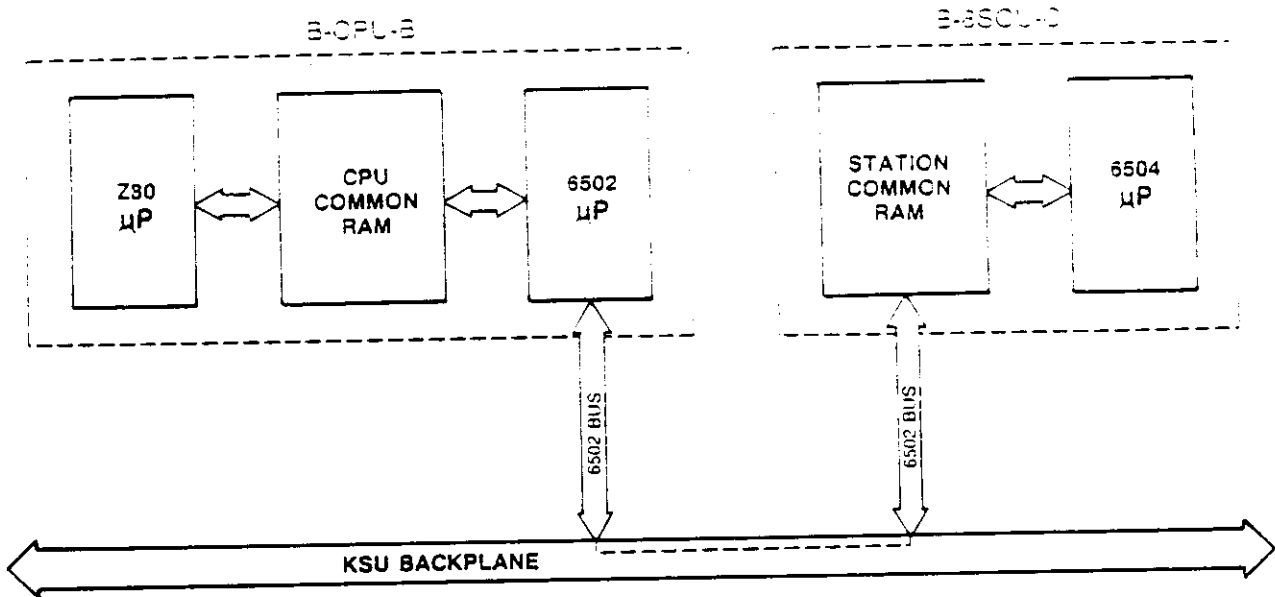

Figure 8-7 CPU COMMON RAM, EK-824/1232/1648
3.10 The CPU Common RAM is the interface between the Z80 and 6502 microprocessors (Figure 8-7). The Common RAM frees the Z80 executive from the burden of repetitive polling of all the stations in the system. This structure increases the efficiency of both the Z80 executive and 6502 traffic controller since the two processors do not have to run in synchronization.